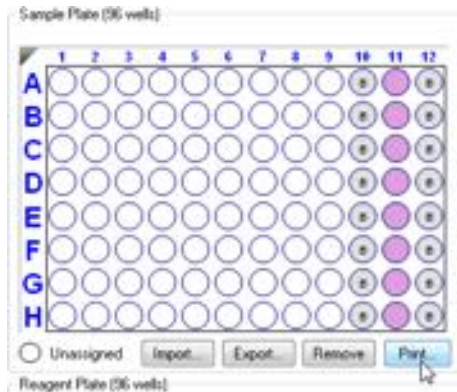

Figure 8-24: Sample Plate Print Button
- 1. In the **Sample Plate Map** (see Figure 8-24), click **Print**.